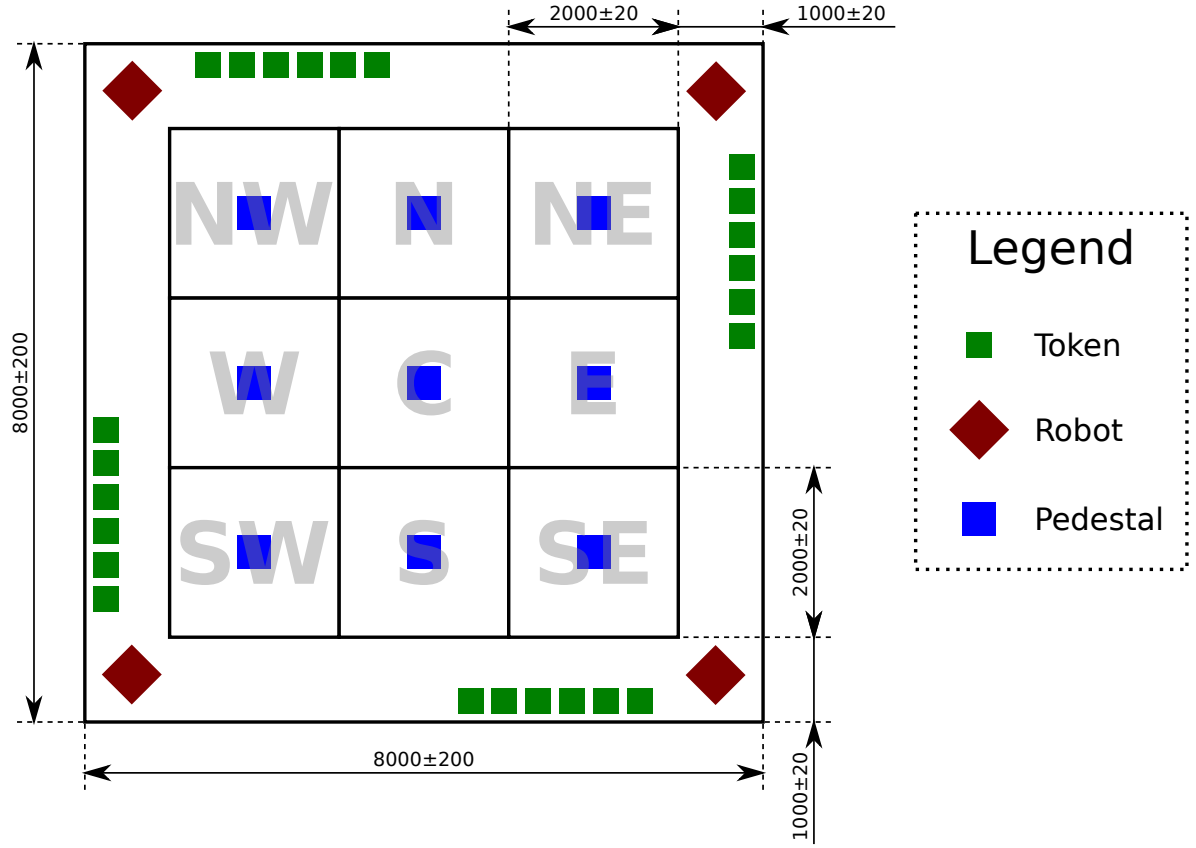

Figure 3: A bird's-eye view of the arena.
- 3.3.1 The match arena floor, overall, is an $8m \times 8m$ square, as shown in figure 3. The tolerance of these two dimensions is $\pm 0.25m$.
- 3.3.4 The arena features nine *squares*. These areas are delineated by lines marked on the arena floor with $25mm$ wide paper-based masking tape. The naming of these squares is shown in figure 3.